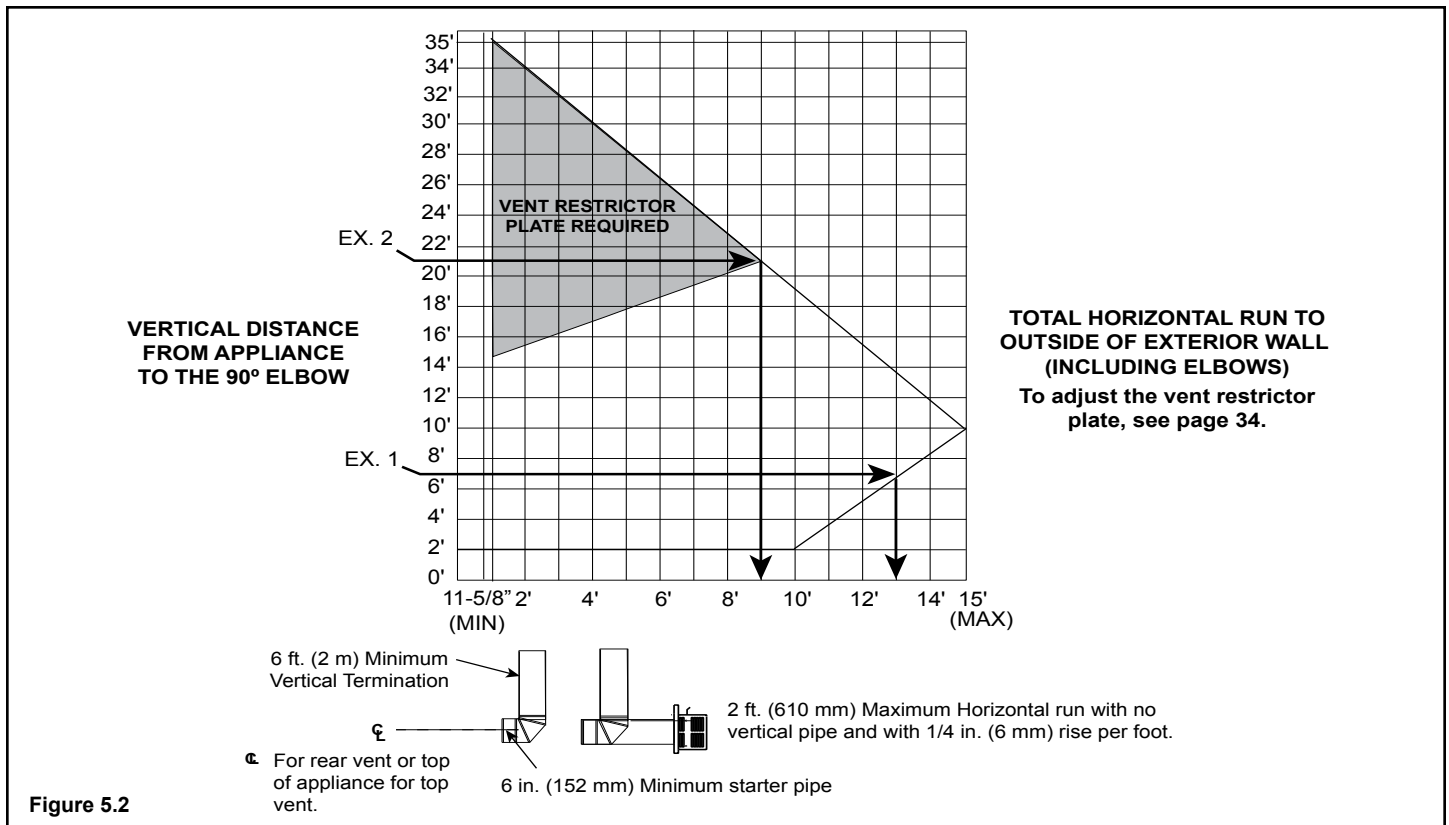

Figure 5.2
1. Check the installation instructions for required 1 in. (25 mm) clearances (air space) to combustibles when passing through ceilings, walls, roofs, enclosures, attic rafters, or other nearby combustible surfaces. Check the instructions for maximum vertical rise of the venting system, and any maximum horizontal offset limitations. All offsets must fall within the set parameters of the vent graph (Figure 5.2) located on page 12.